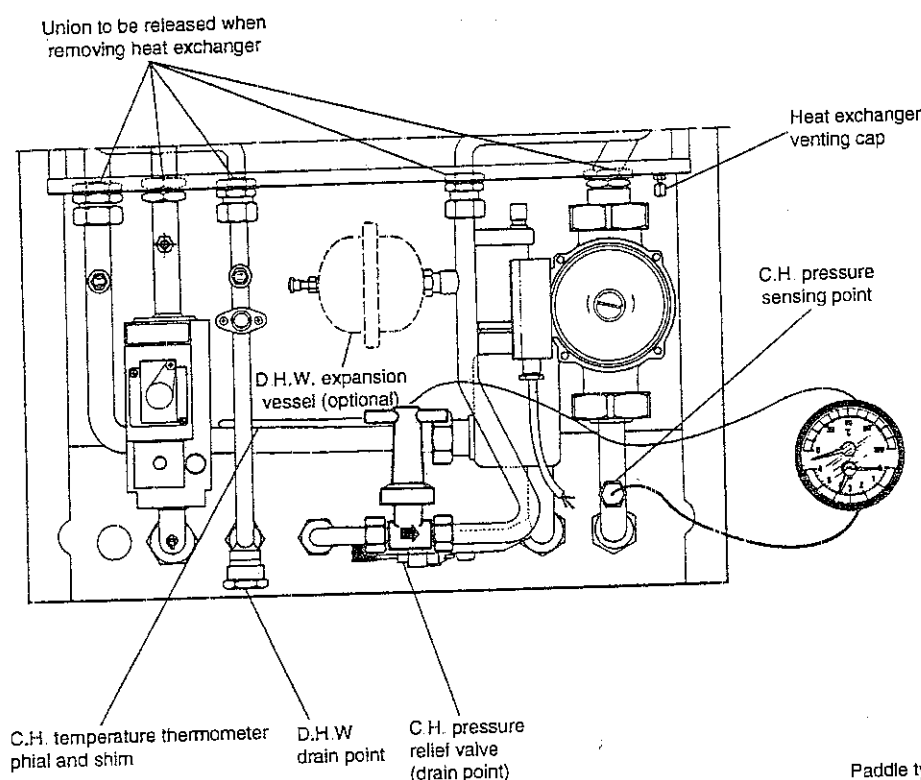

Fig 37
- b) For replacement of parts where water connections are broken, it will be necessary to isolate and drain either or both the central heating or domestic hot water circuits of the boiler only. The cold water mains inlet is isolated at the inlet cock (fig. 1). The D.H.W. is drained via drain cap (fig. 37).
- a) Refer to section 1, items a, b, c, d, f and g (drain D.H.W. only fig. 37).
- Remove the shim then the temperature sensing phial from its pocket (fig. 37)
- Unscrew the pressure sensor from its housing (fig. 37). (Access from below).
- Unscrew the expansion vessel (fig. 37). (Take care not to lose the sealing washer).